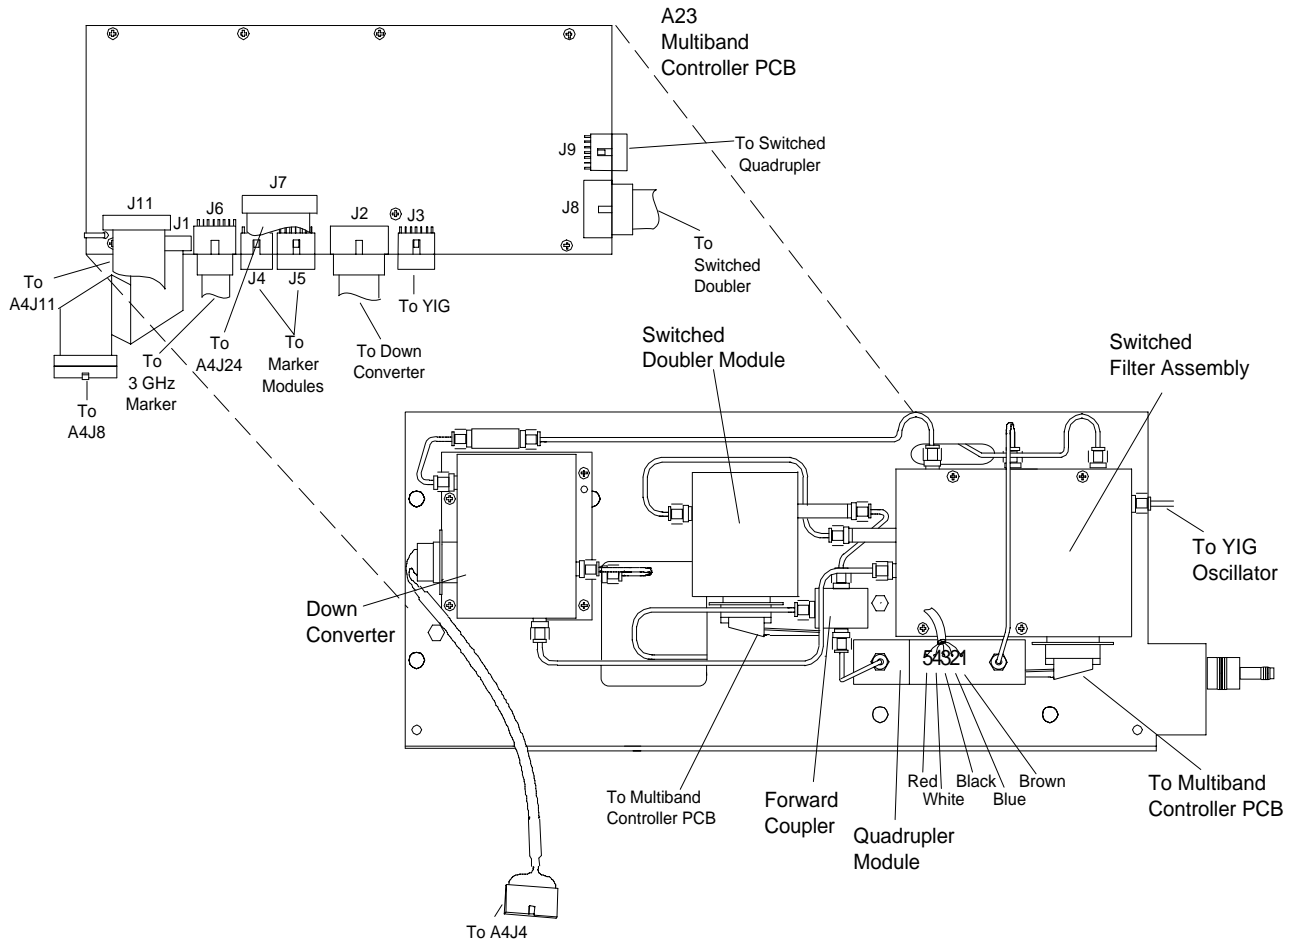

Figure 7-21. Models 54177A RF Deck Parts Location (Internal Side Detail)
- Step 1.*** Remove the marker connection from A23J5 on the Multiband Controller PCB (Figure 7-21).
- Step 1.*** Remove the connection from A23J4 on the Multiband Controller PCB (Figure 7-21).
Step 2. Remove the Switched Filter (See Figure 7-21 and procedure on next page).